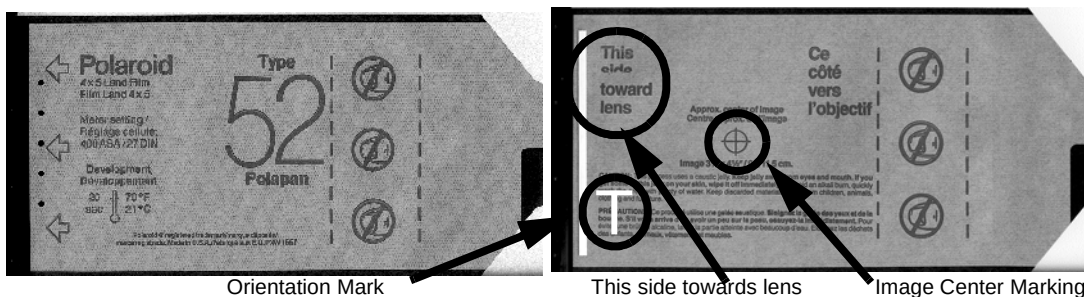

Figure 9-7 Polaroid Film, Type 52
- Type 52 Polaroid Film (see Figure 9-7)
Orient the side of the film side marked “**This side toward lens**” towards iso center (see Figure 9-7). When exposed and developed later, the film will show the alignment of the x-ray beam with respect to the table, as viewed from the X-Ray tube in the 3:00 o'clock position.